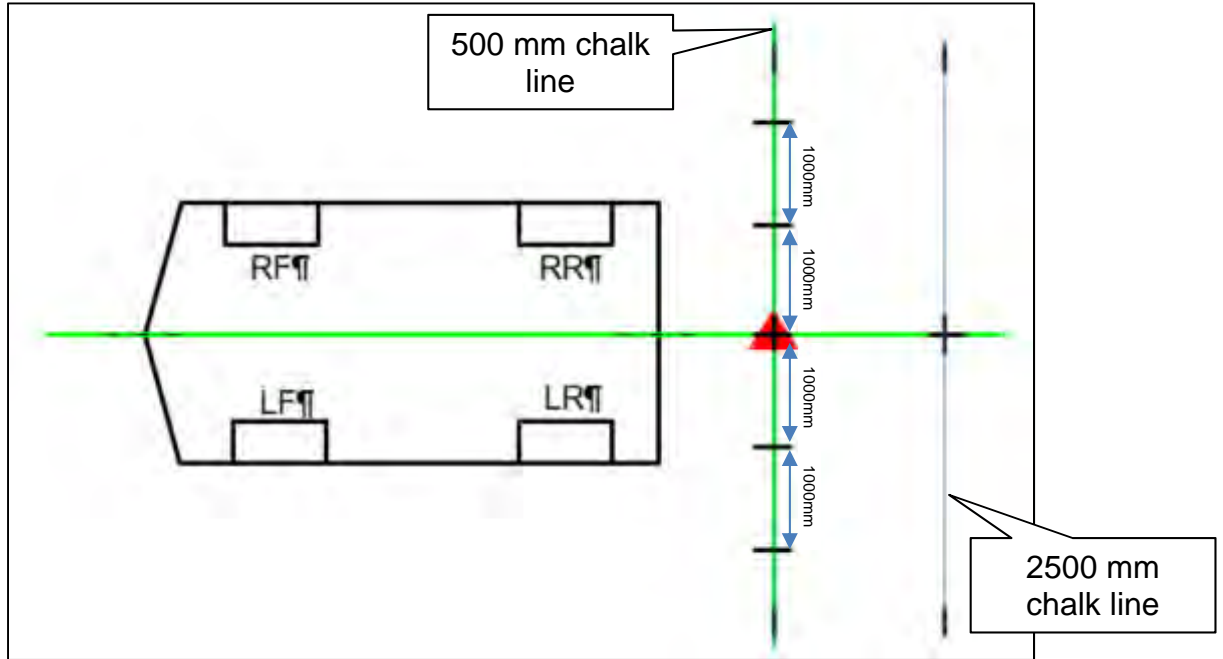
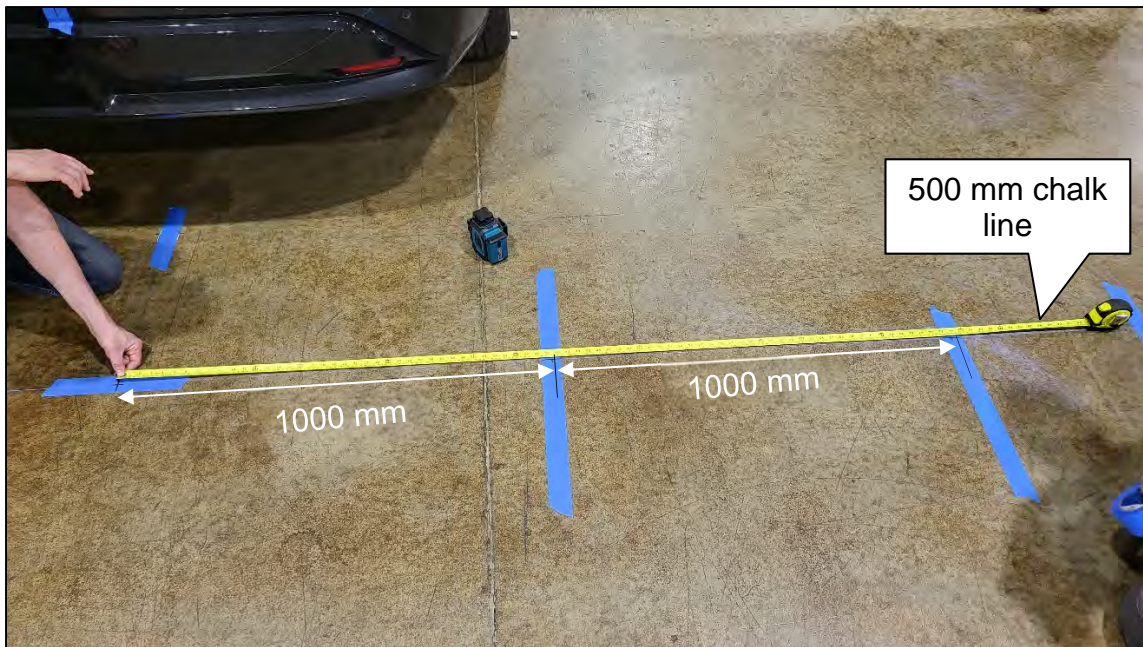

Figure 77
Figure 78
56. Measure and mark 1000 mm increments, as shown in Figure 77 and Figure 78.